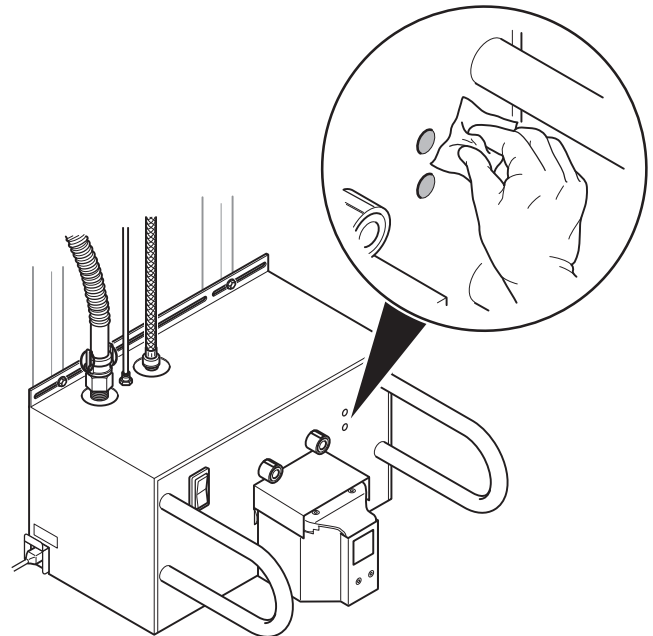

Figure 17 To Clean the Infrared Communication Ports
3. Thoroughly clean the docker's infrared communication ports to make sure the rover and docker can communicate and function properly (Figure 17).